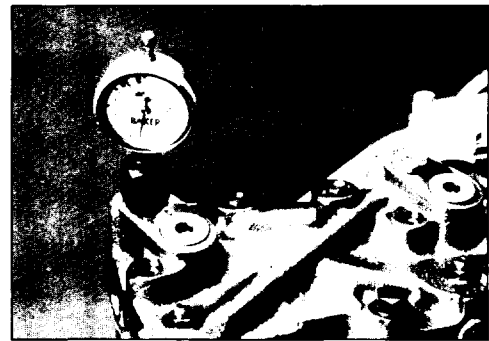

FIG. 32
2. Install the dial indicator assembly into the trigger valve bore (see Fig. 32). Hand tighten until metal-to-metal contact is made.